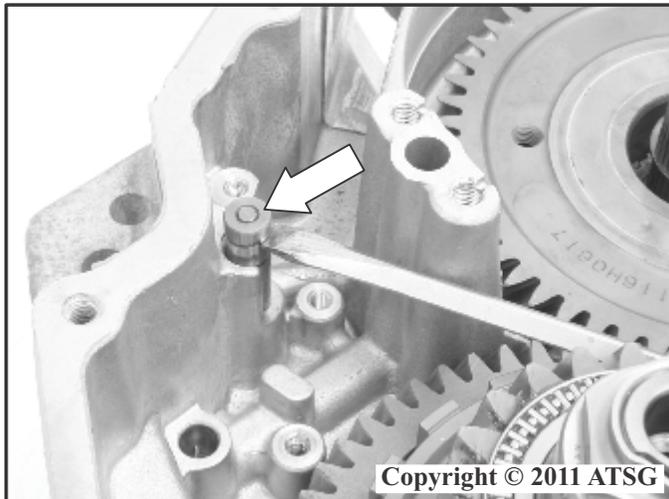

Figure 231
51. Install the parking pawl spring guide pin as shown in Figure 231.